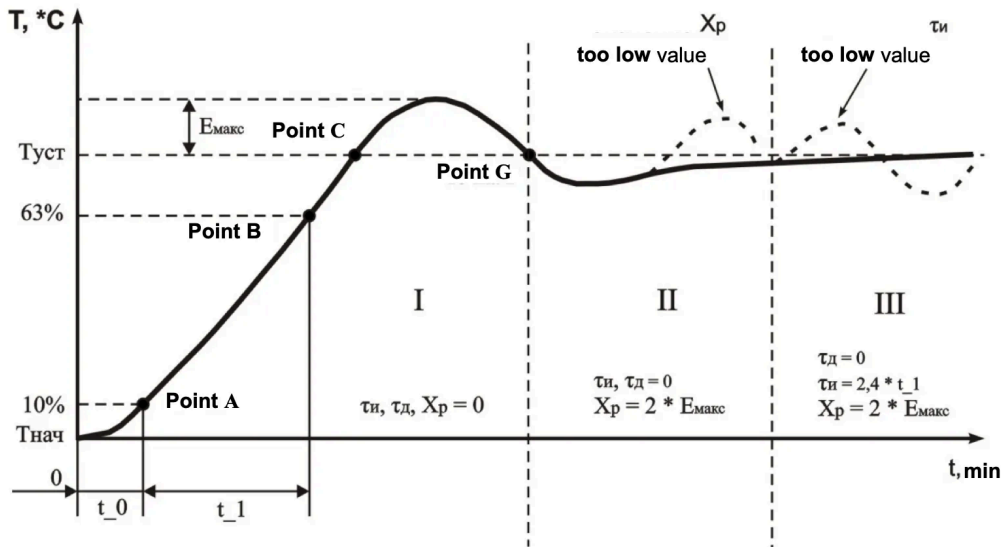

Figure 7.1 – PID regulator manual tuning diagram
As soon as the control temperature will come down below SP (Tset), process automatic tuning will finish (point G at Figure 7.1) and display device will show continuous lettering Pid.
After passage to mode regulation (at the end of 20 seconds the device automatically passes into mode regulation) output relay of loading will be power on till fail to reach regulation temperature (setting limit) Tset (period I, point B at Figure 7.1).
7.2.5.3.4 Take measure t_1 – time from the moment of temperature increase to 10% (point A at Figure 7.1) and to the moment of temperature increase to 63% from the range $T_{set} - T_{max}$ (point B at Figure 7.1).
7.2.5.3.6 Take measure of maximum value overshoot between points B and G (E_{max} , Figure 7.1).
7.2.5.3.7 Fix the value $X_p = 2 \times E_{max}$ (period II at Figure 7.1).